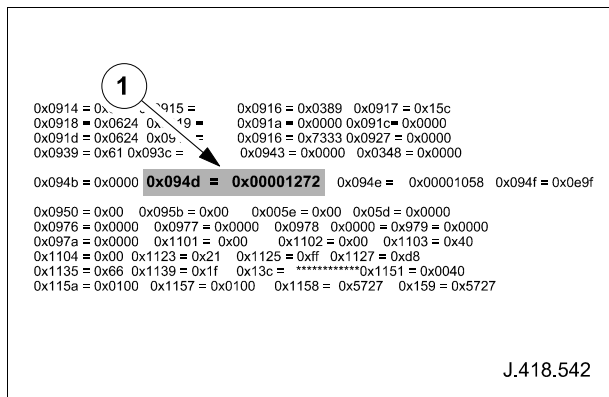

Fig. 1
1.2 Record value 0x094d, as shown in Fig. 1.